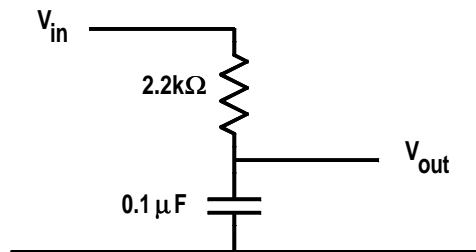
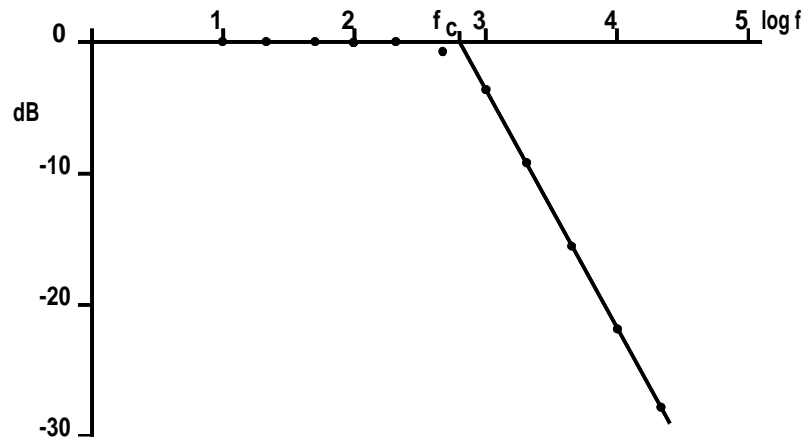

Figure 16.1: First order RC filter.
Figure 16.2: Amplitude response of first order filter.
The frequency response of a filter such as that shown in Figure 16.1 is obtained by repeating the calculation of the attenuation carried out in Example 15.1 for a range of frequencies. When the response in decibels, dB, as a function of the log of the frequency, is plotted, a response curve similar to that shown in Figure 16.2 is obtained.
If the point $(\log f_c, 0 \text{ dB})$ is plotted, then the response curve can be approximated by two straight lines through this point as shown on the plot. One of the lines is at a constant 0 dB and is the frequency axis. The second line has a slope of -20 dB per decade, that is it drops by 20 dB for each decade in frequency or each change of 1.0 on the log frequency scale. The powerful feature of this Bode plot method is that you only need one number, the corner frequency, to be able to give a reasonably accurate plot of the frequency response of an *RC* or *RL* circuit. You do not need to do, for each frequency, the detailed computations which were done in order to obtain the points plotted in Figure 16.2.
- 16.1 Calculate the response of the filter shown in Figure 16.1 for the frequencies 10 Hz, 724 Hz, 1 kHz and 10 kHz and verify the response curve shown in Figure 16.2.